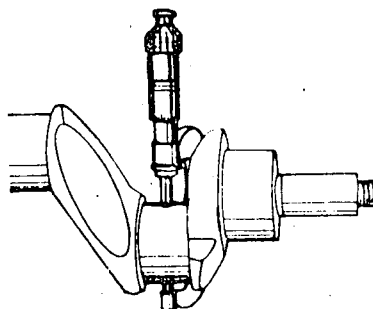

Fig. 2
c) Determine the wear to the journals, by measuring the taper and ovalness with a micrometer, according to specifications (fig. 2).